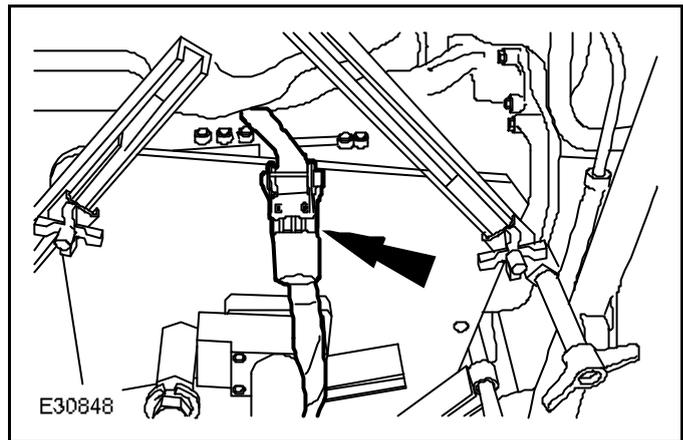

Fig. 4
- 12 Remove the tie-down strap (see Fig. 4).